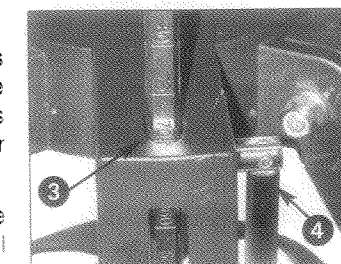
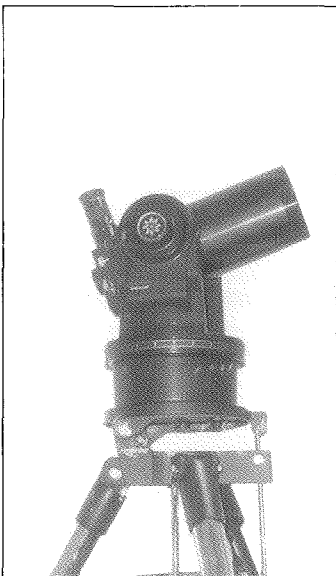

Fig. 4: Set latitude.
Fig. 6: Altazimuth Alignment.
4. Determine the latitude of your observing location from a road map, atlas, or the **LATITUDE CHART FOR MAJOR CITIES OF THE WORLD**, provided in your ETX manual. Loosen the latitude control latch (4, Fig. 4) and adjust the latitude control bar (3, Fig. 4) so that your observing site's latitude is just visible above the flat surface of the tripod head. Retighten the latch. (See Fig. 4.)
3. Unlock the latitude control latch (4, Fig. 4) and lower the tilt-plate until it is level (push the tilt-plate down until it stops; this is the level position). Lock the latitude control latch. (See Fig. 6.)